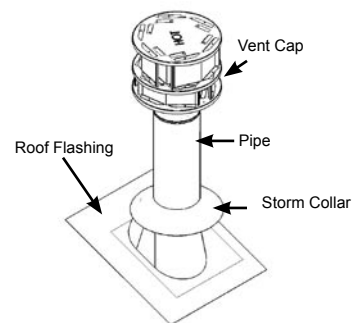

FIGURE 14
10. Seal all nail heads with high-temperature waterproof sealant. To finish, apply high-temperature waterproof sealant where the Storm Collar will meet the vent and Roof Flashing; slide Storm Collar down until it sets on the Roof Flashing, tighten the bolt on the Storm Collar, put the Vent Cap on and push to lock. See Figure 14.
13. Seal all nail heads with high-temperature waterproof sealant. To finish, apply high-temperature waterproof sealant where the Storm Collar will meet the Vent and Flashing; slide Storm Collar down until it sets on the Flashing, put the Vent Cap on and push to lock. See Figure 14 (page 16).